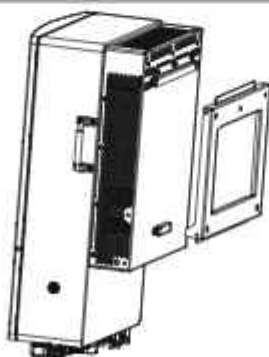

Figure 3.6 Wall mount bracket
2. Lift up the inverter (be careful to avoid body strain), and align the back bracket on the inverter with the convex section of the mounting bracket. Hang the inverter on the mounting bracket and make sure the inverter is secure (see Figure 3.6)